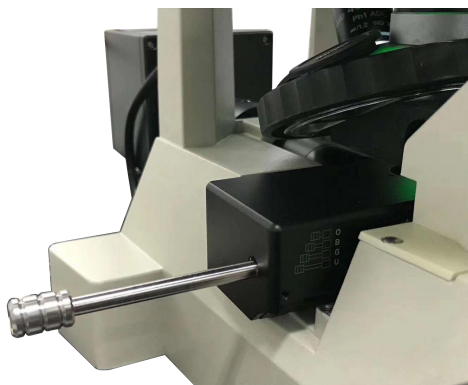
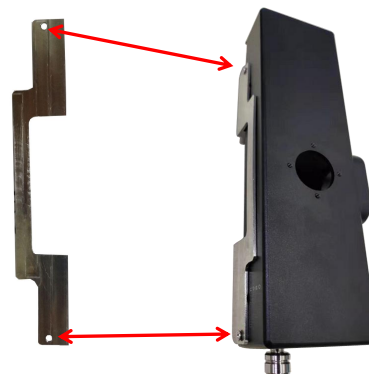

Figure 03
Figure 04
3. Place the main body of the excitation block of the fluorescent module into the module installation area of the fixed metal plate from the side (as shown in Fig. 03). There is a screw hole bit on the edge of both ends of the fixed metal plate. Use the fixed screw to connect the metal plate and the module body, and lock and fix it (as shown in Fig. 04).
4. Insert in the fixing lenses tube from the bottom rear end of the microscope host, connect the main body of the fluorescent module, and lock and fix it with the hexagon screw (as shown in Fig. 04).